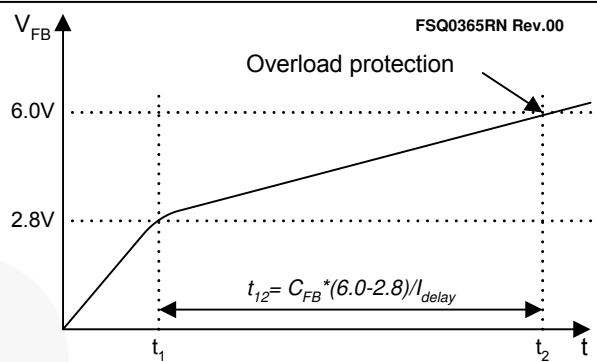

Figure 24. Overload Protection
**4.1 Overload Protection (OLP):** Overload is defined as the load current exceeding its normal level due to an unexpected abnormal event. In this situation, the protection circuit should trigger to protect the SMPS. However, even when the SMPS is in the normal operation, the overload protection circuit can be triggered during load transition. To avoid this undesired operation, the overload protection circuit is designed to trigger only after a specified time to determine whether it is a transient situation or a true overload situation. Because of the pulse-by-pulse current limit capability, the maximum peak current through the SenseFET is limited, and therefore the maximum input power is restricted with a given input voltage. If the output consumes more than this maximum power, the output voltage ( $V_O$ ) decreases below the set voltage. This reduces the current through the opto-coupler LED, which also reduces the opto-coupler transistor current, thus increasing the feedback voltage ( $V_{FB}$ ). If  $V_{FB}$  exceeds 2.8V, D1 is blocked and the 5 $\mu$ A current source starts to charge CB slowly up to  $V_{CC}$ . In this condition,  $V_{FB}$  continues increasing until it reaches 6V, when the switching operation is terminated, as shown in Figure 24. The delay for shutdown is the time required to charge CB from 2.8V to 6V with 5 $\mu$ A. A 20 ~ 50ms delay is typical for most applications.